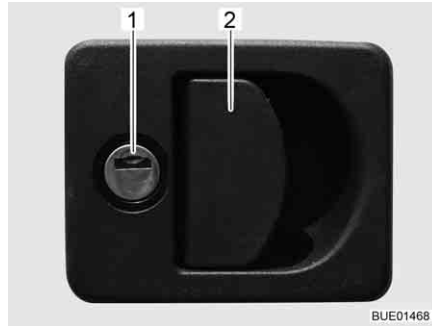

Fig. 52 Flap lock with recessed handle
- Insert key into locking cylinder (Fig. 52,1) and turn a quarter turn. The flap lock is unlatched.
- Pull on the lock handle (Fig. 52,2). The external flap is open.